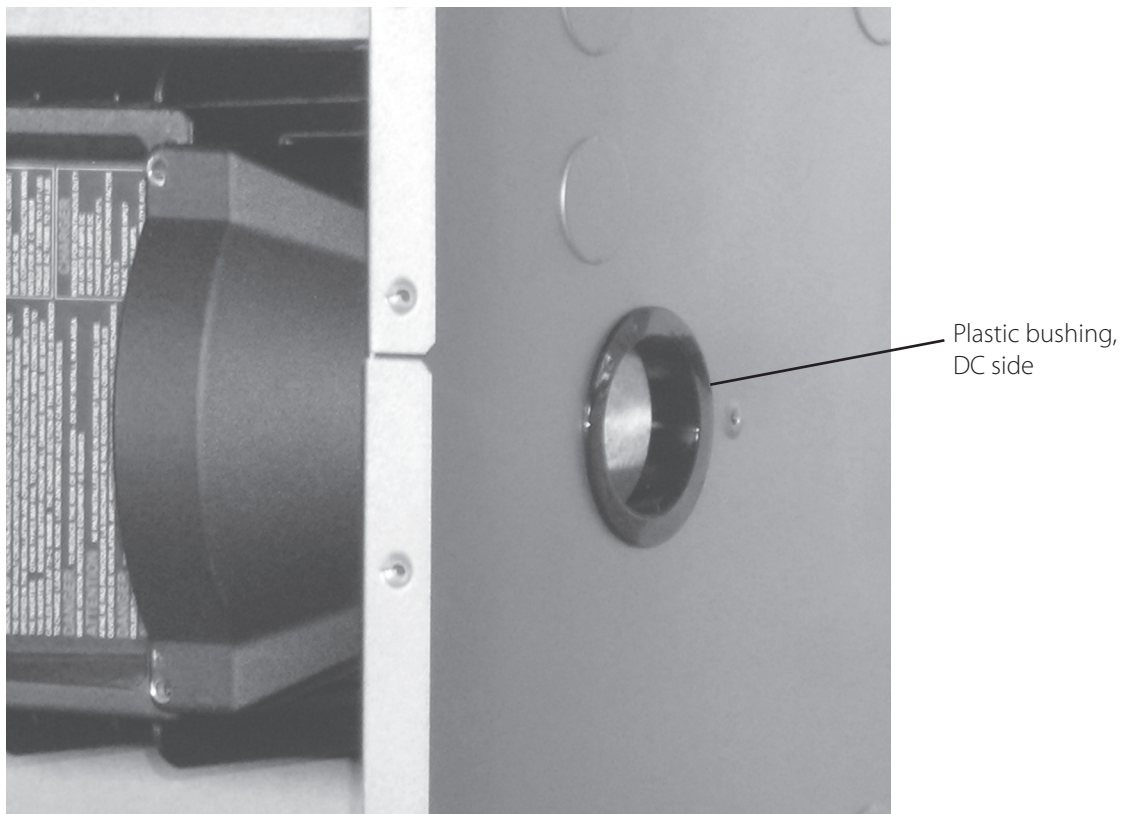

Figure 11: DCA bushing
- Install the plastic bushing in this hole (see Figure 11).